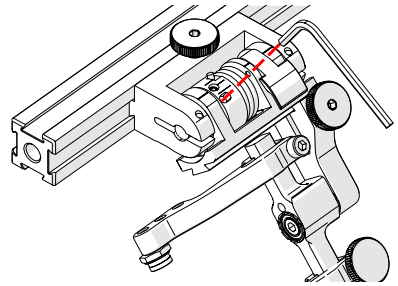

Fig. 55 - Unlatched position
3. Insert the short arm of a 3 mm hex wrench into the 3 mm slot (Fig. 55).